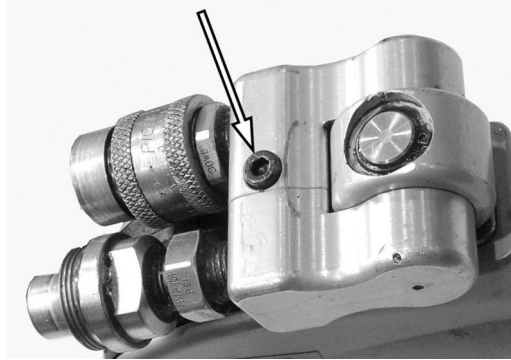

Figure 8. Yoke Screw
2. See Figure 8. Remove the multiswivel yoke screw.